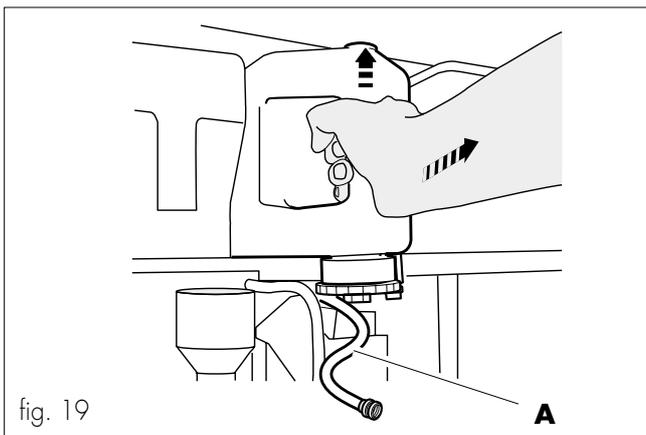

fig. 19
- Disconnect the tube (ref. **A**, fig. 19) from the tank by acting on the automatic coupling.
- Extract the tank from its seat by slightly lifting the handle (fig. 19).